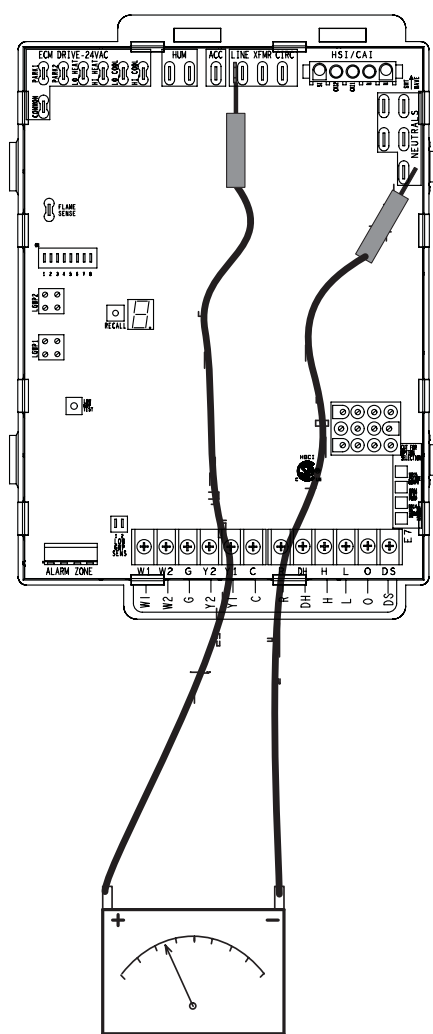

Figure 20.
1. Measure the AC voltage between Line Neutral (spade terminals) and “C” terminal (low voltage terminal block) on the integrated control. See Figure 20. A wide variation in the voltage between Line Neutral and “C” as a function of load indicates a poor or partial ground. Compare the readings to the table below. If the readings exceed the maximum shown in Table 18, make repairs before operating the furnace.
2. In addition, measure the AC voltage from Line Hot to Line Neutral (spade terminals) on the integrated control. See Figure 20. This voltage should be in the range of 97 to 132 Vac.